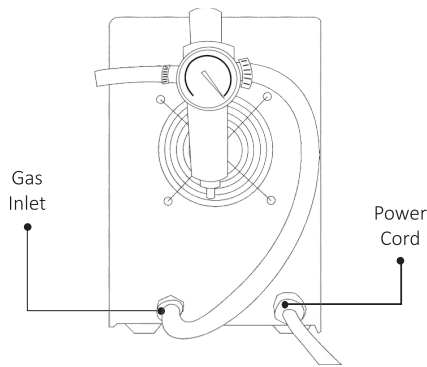
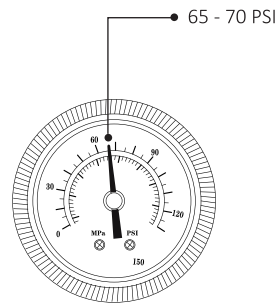

Figure 1.2
Figure 1.3
2. Connect the machine gas inlet (on the back of the machine, Figure 1.2) with an air compressor (Figure 1.3) and set the air pressure to 65-70 PSI. (The Air Regulator is optional if your air compressor has the capability to control output air pressure.)